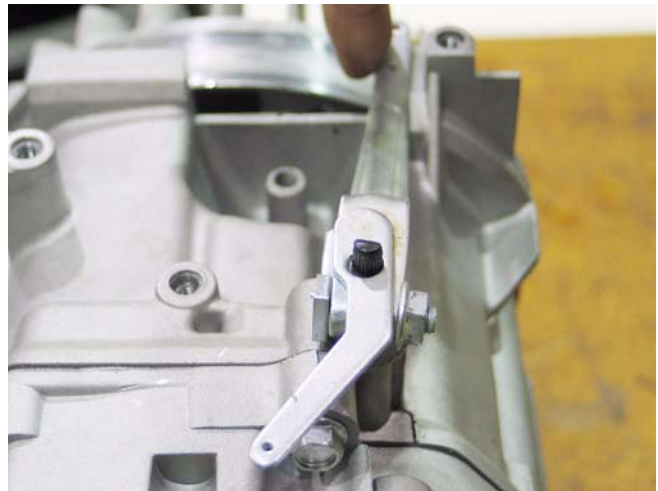

Figure 1.3
- 1c. Loosen the nut and through bolt. See Figure 1.3.